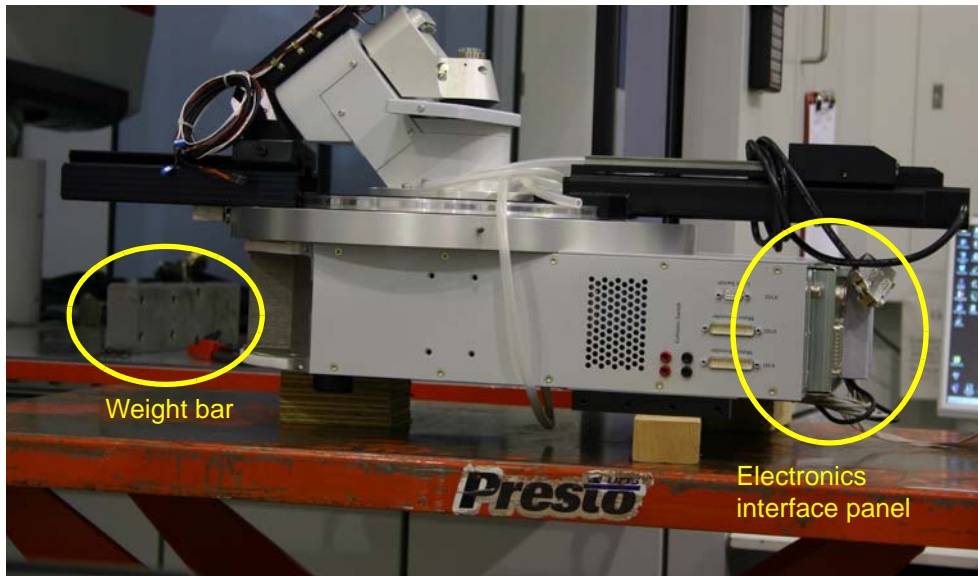

Figure 2.1 — Goniometer elevated on 2x4 blocks
4. Remove the electronics interface panel (circled in Figure 2.1) from the detector side of the goniometer. Set it aside without unplugging the cables.
5. Attach the weight bar (circled in Figure 2.1) with the X and Y horizontal drives to the detector side of the goniometer using four socket head screws.